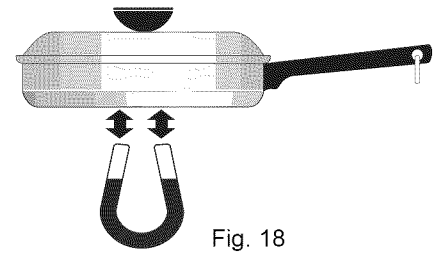

Fig. 18
When purchasing pans, look for cookware specifically identified by the manufacturer for use with Induction cooktops. If you are not sure, use a magnet to test whether the cookware type will work. If a magnet sticks to the bottom of the cookware, the material type is correct for Induction cooking (See Fig. 18).
- Use cookware made with the correct material type for Induction Cooking (See Fig. 18).